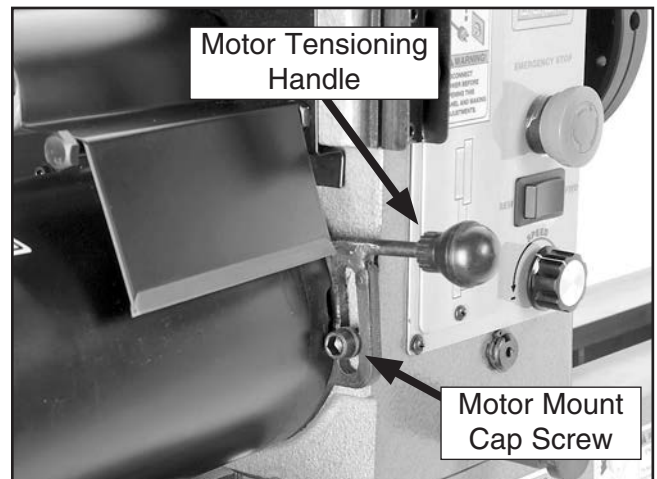

Figure 33. Motor tensioning handle and motor mount cap screw.
3. Use the included 8mm hex wrench to loosen the motor mount cap screw just under the motor tensioning handle (see **Figure 33**).